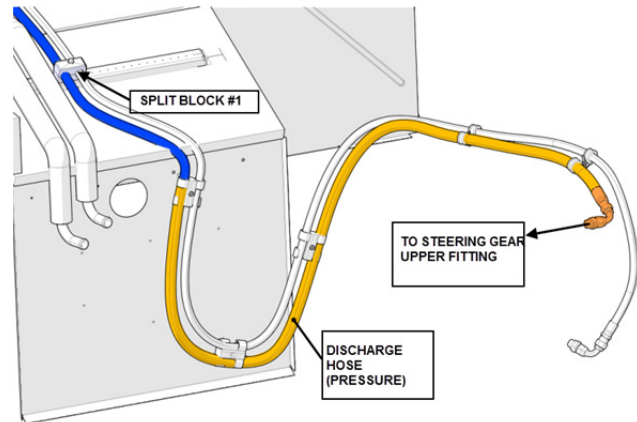

FIGURE 2
- In the spare wheel compartment, it is wrapped in a yellow sheath and is connected to the top of the steering box (fig.2).